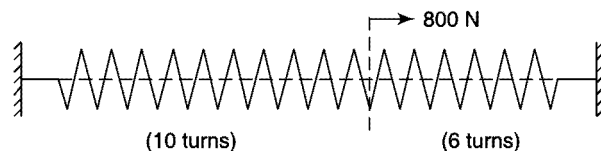

Fig.11.3
**Given** A close-coiled helical spring as shown in Fig. 11.3.